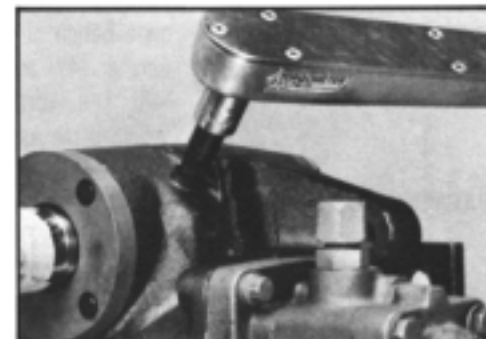

Figure 164
57. If bleed screw (55B) was removed from housing (55) reassemble and torque to 27-33 in. lbs. (3.1-3.7 N m). SEE FIGURE 164.